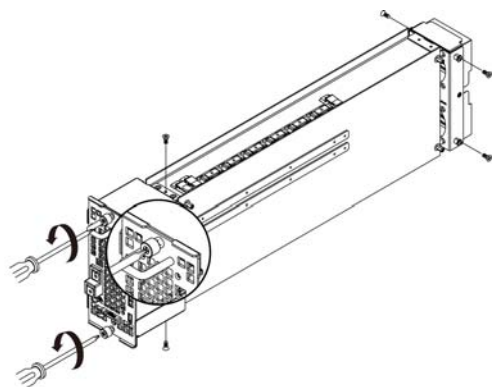

Figure 4-1
1. The front protection racket is divided into up and down two pieces. Loosen the panel spring screws and the middle of back-end screws as Figure 4-1 shows.
2. To remove the rear protection racket, loosen the 4 screws on the left and right sides as Figure 4-1 shows.